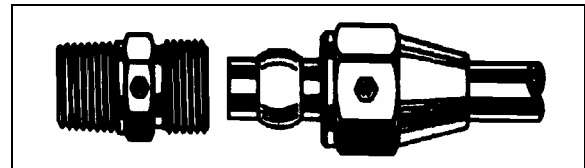

FIGURE 48: HOSE FITTING 12056
**AB-Type Copper Piping:** Hand tighten nut (Fig. 48). From that point, tighten with a wrench the number of turns indicated in the following chart.